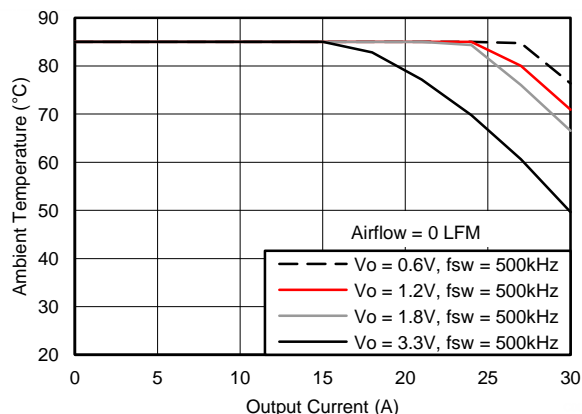
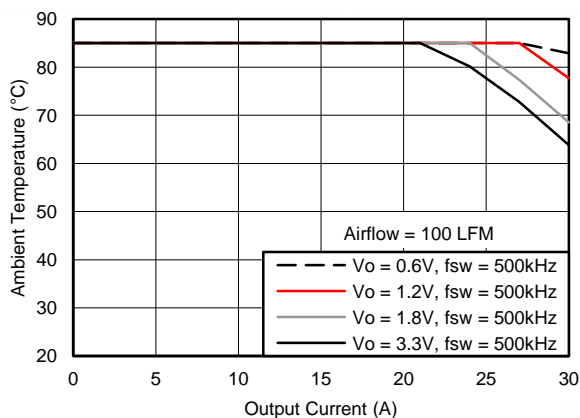
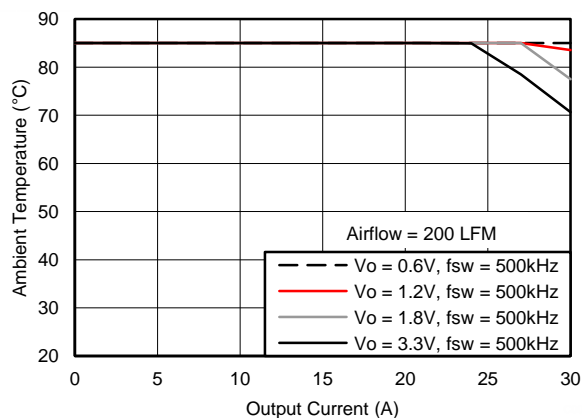

Figure 4. Safe Operating Area (0 LFM)
Figure 5. Safe Operating Area (100 LFM)
Figure 6. Safe Operating Area (200 LFM)
- (2) The temperature derating curves represent the conditions at which internal components are at or below the manufacturer's maximum operating temperatures. Derating limits apply to devices soldered directly to a 100 mm x 100 mm six-layer PCB with 1 oz. copper. Applies to Figure 4, Figure 5, and Figure 6.